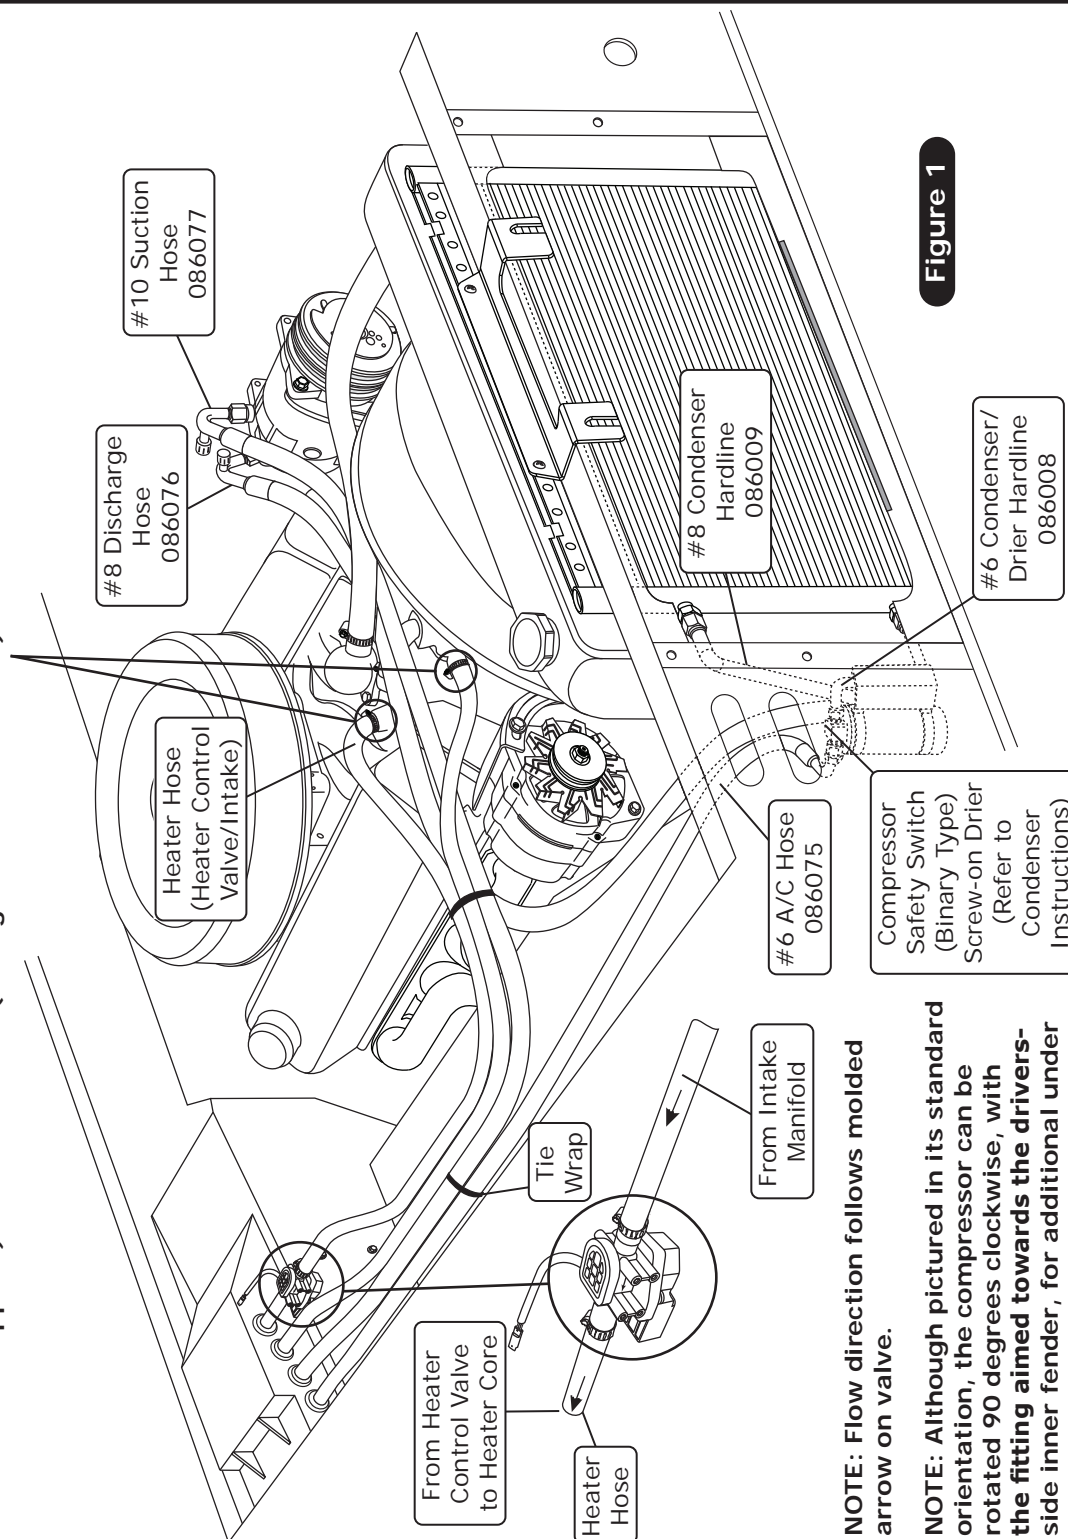

Figure 1
2. Route a piece of heater hose (not supplied) from the intake to the bottom heater fitting of the heater core as shown in Figure 1a, Page 12, and Figure 1, below. **NOTE: Install the heater control valve in line with the intake manifold (pressure side) heater hose, and secure using hose clamps as shown in Figure 1, below. Also note proper flow direction.**